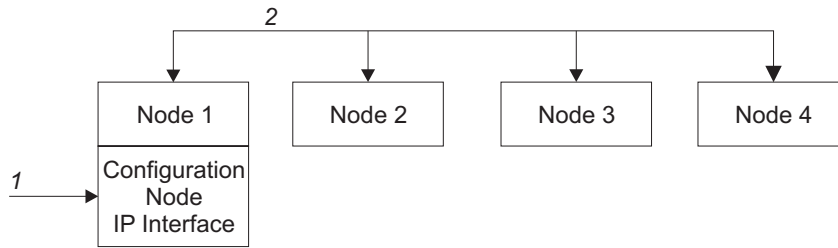

Figure 8. Configuration node
The figure below shows an example cluster containing four nodes. Node 1 has been designated the configuration node. User requests (1) are targeted at Node 1. This may result in requests (2) being targeted at the other nodes in the cluster, and data being returned to Node 1. See Figure 8 on page 16 for more information.